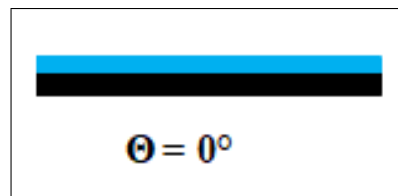

Figure 3.7: Perfect wetting.
- $\theta = 0$; Perfect wetting (Figure 3.7).